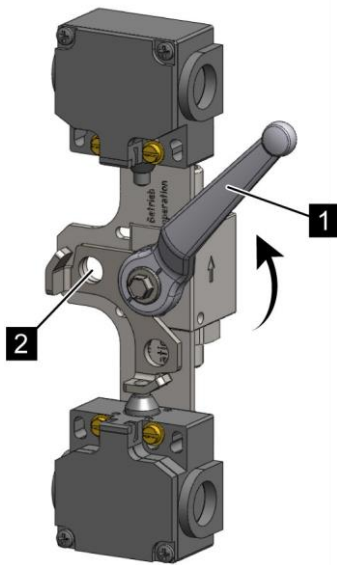

Fig. 181: Blocking device (optionally with 1 or 2 limit switches)
11. ➤ Switch the ball valve (Fig. 181/1) to the “ready for operation” position (Fig. 181/arrow).
12. ➤ Attach the padlock (Fig. 181/2).